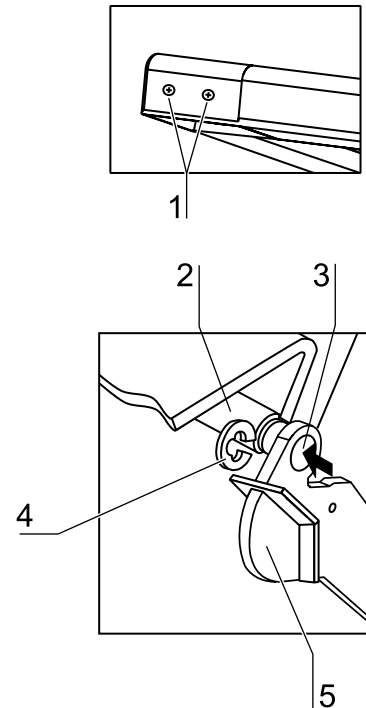

Fig. 28,
8. **Fig. 28:** Remove the front door side covers. The covers are secured with screws to the frame and to the lower cross-member [1].